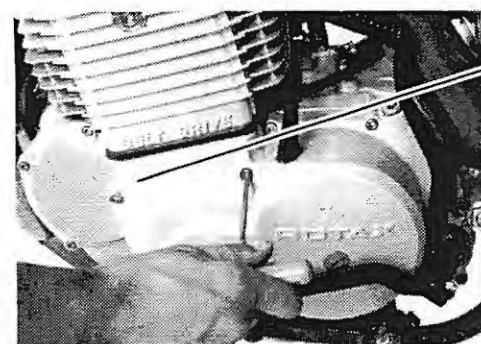

Figure 4.14
2. Remove the lower belt cover by removing the three 5 mm socket head bolts. Note: One of these bolts uses a copper washer, during reassembly ensure this bolt is placed in its correct position. (Figure 4.14)